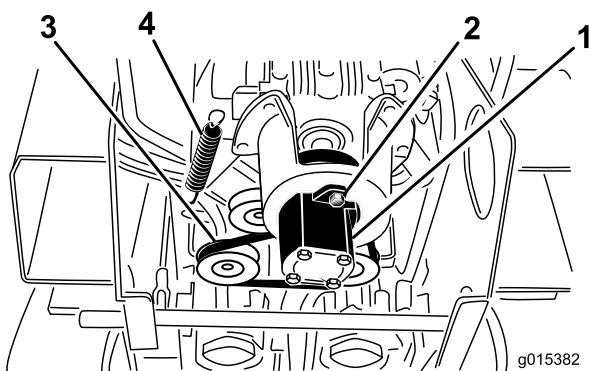

Figure 53
5. Loosen the two pump bolts (Figure 53).
6. Twist the pump counter clockwise and allow it to drop down away from the pulley (Figure 53). Ensure that the spider coupler drops down with the pump.
7. Using a spring puller (contact your Authorized Service Dealer) or stiff metal hook, pull the end of the idler pulley spring off of the spring bolt to release tension on the belt (Figure 53).